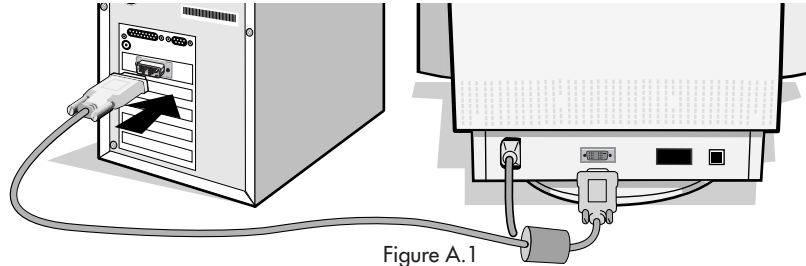

Figure A.1
2. For the PC with DVI digital output: Connect the DVI-D to DVI-D cable to the connector of the display card in your system (**Figure A.1**). Tighten all screws.